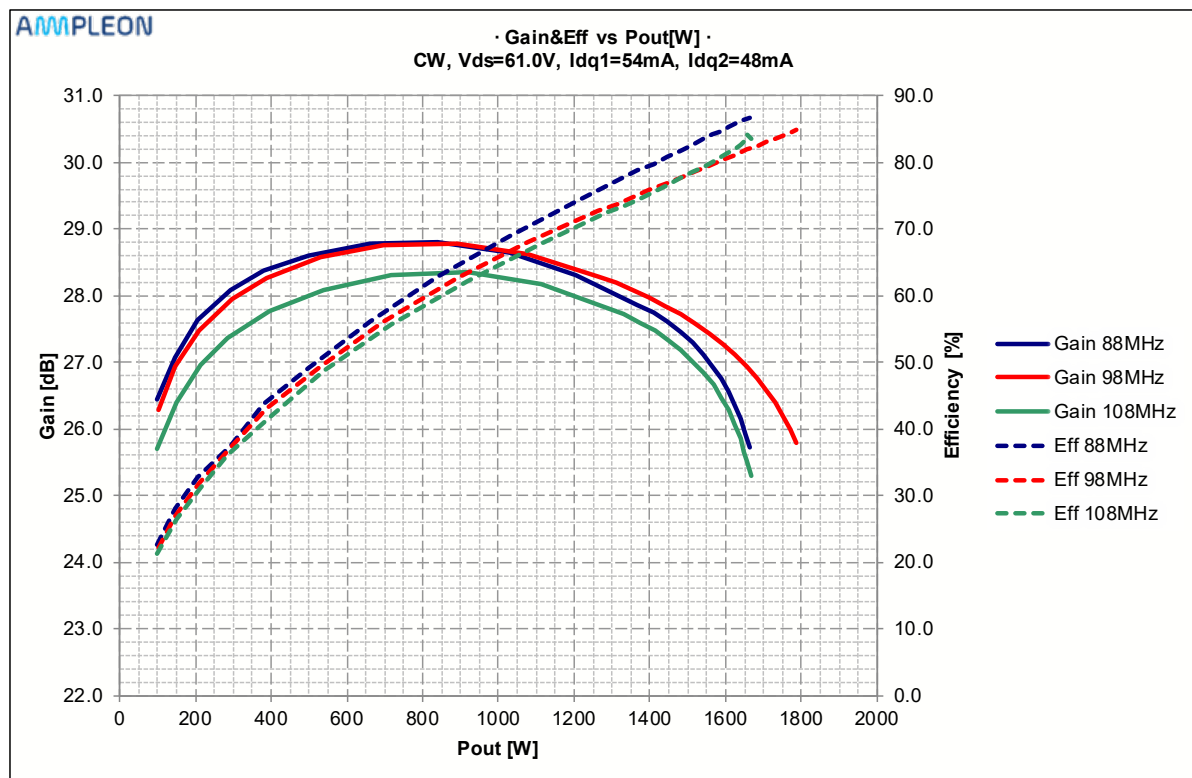

Figure 2 CW (Vds=61V) Gain and Efficiency vs Pout [W]
- 3. List of figures 2**
- Figure 2 CW (Vds=61V)Gain and Efficiency vs Pout [W] 5